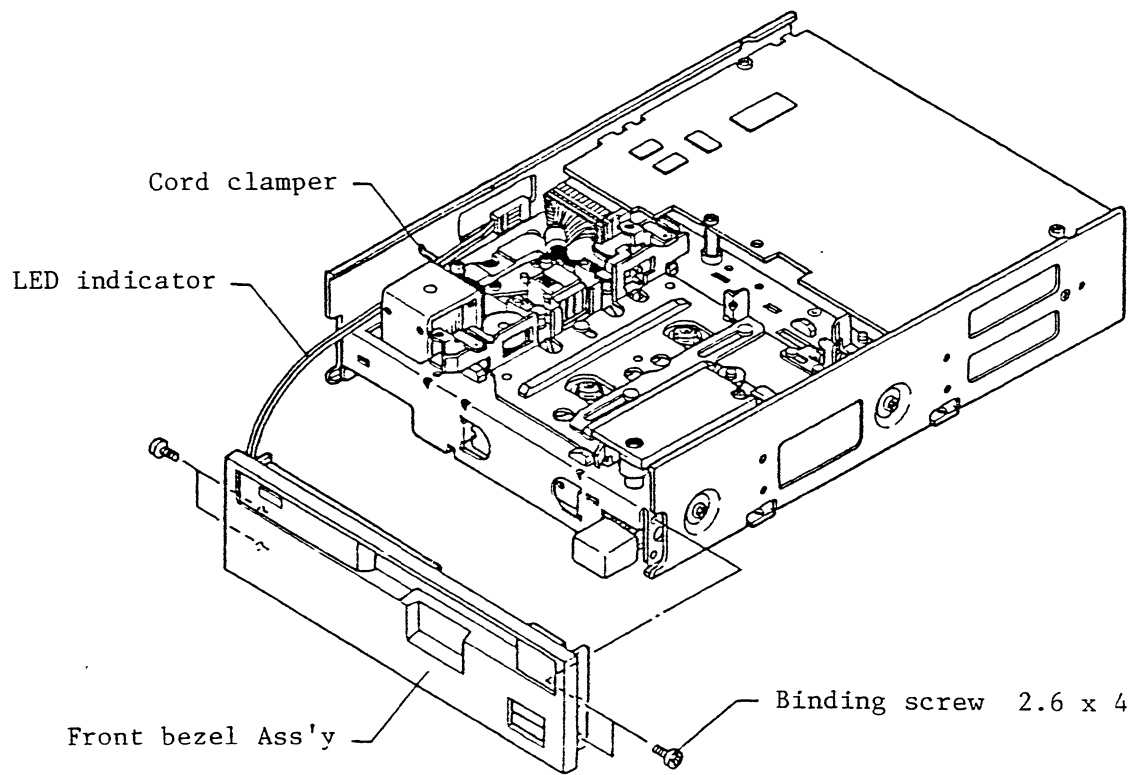

Fig.453 Replacement of front bezel Ass'y
(1) Articles to be used
(2) Replacement procedure
- (b) Extract the connector J5 and remove the cables from the cord clamper (Fig. 453).
- (c) Remove the four mounting screws from the front bezel Ass'y, and extract the front bezel Ass'y from the main unit (Fig. 453).